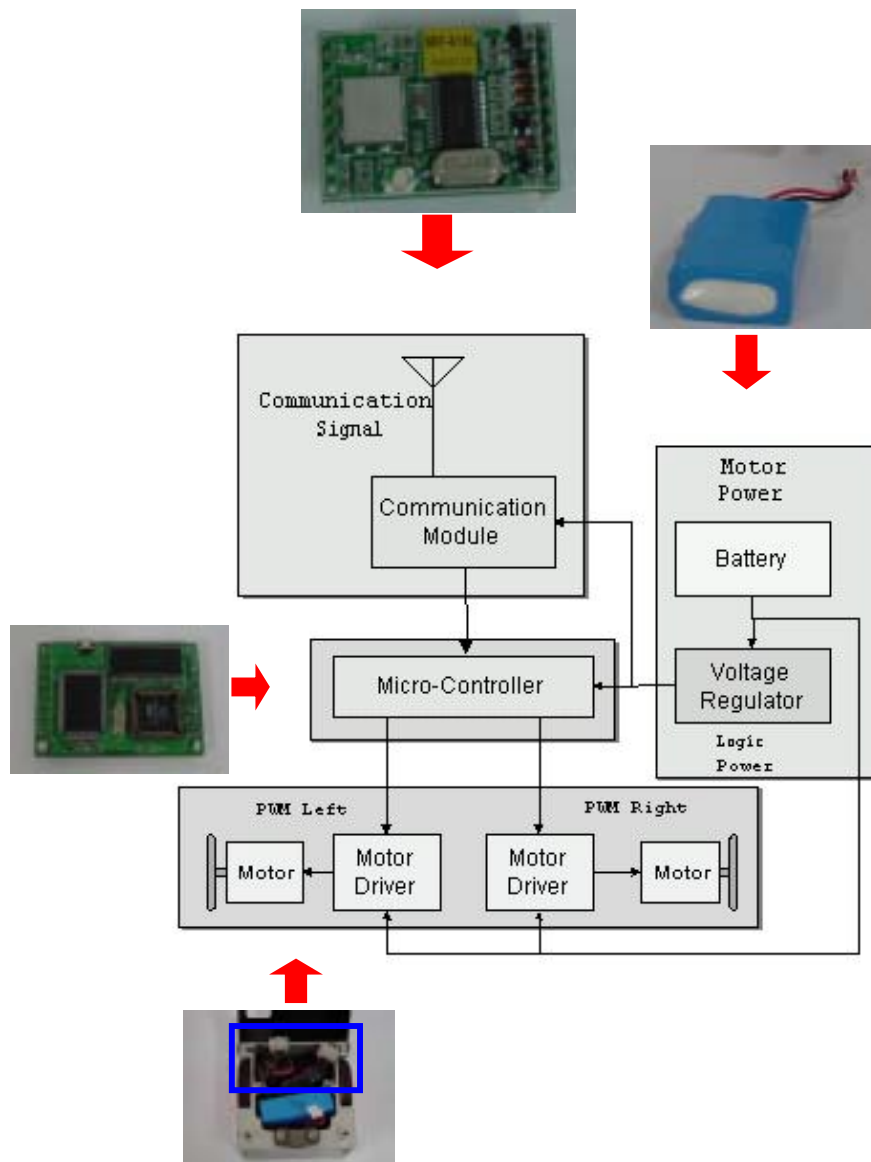

Figure 1.2 Main parts of robot system
- Figure 1.2 Main parts of robot system
For Vision-based soccer robot system, a robot system is a part of robot soccer system. Figure 1.2 shows a diagram of robot system. Robot system consists of four parts; micro-controller, motor driver, communication, and power unit.
The complete robot is illustrated in Figure 1.2. The robot has a circuit board, battery, motor, and body (including wheels). The circuit board can be separated into the lower circuit board that has power devices (voltage regulator, motor driver, etc.) and RF module and the upper circuit board that has the micro-controller (ATMEGA128)